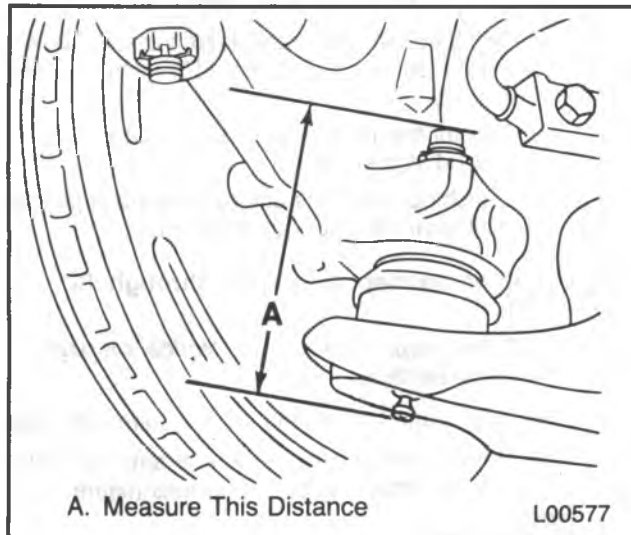

Figure 24 — Inspecting the Lower Ball Joint
Inspect (Figure 24)
2. Measure the distance between the tip of the ball joint stud and the tip of the grease fitting below the ball joint (figure 24).